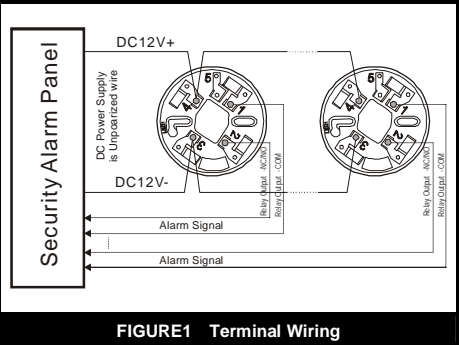

FIGURE1 Terminal Wiring
3. Position all wires flat against terminals, and fasten the wires on the terminals, See Figure 1.